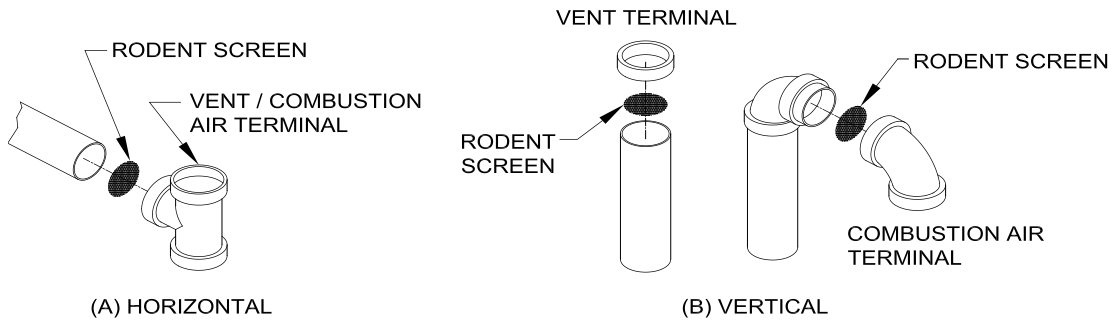

Figure 8: Rodent Screen Installation
6. Install Rodent Screen and Vent Terminal (supplied with boiler), see Figure 8 for appropriate configuration.
7. Install Rodent Screen and Combustion Air Terminal (supplied with boiler), see Figure 8 for appropriate configuration.
- Install Rodent Screen and Vent Terminal (supplied with boiler), see Figure 8 for appropriate configuration.
- b. Extend combustion air pipe to maintain minimum vertical and horizontal distance of twelve (12) inches from roof surface. Allow additional vertical distance for expected snow accumulation. Provide brace as required.
7. Install Rodent Screen and Vent Terminal (supplied with boiler), see Figure 8 for appropriate configuration.